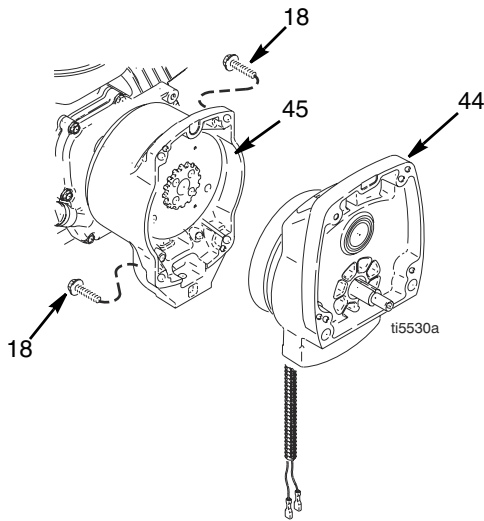
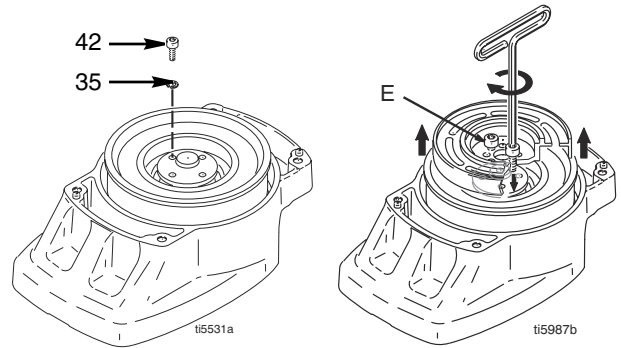

FIG. 4
FIG. 5
4. FIG. 4. Remove four screws (18) and pinion assembly (44).
5. FIG. 5. Place pinion assembly (44) on bench with rotor side up.
6. Remove four screws (42) and lock washers (35). Install two screws in threaded holes (E) in rotor. Alternately tighten screws until rotor comes off.
9. FIG. 5. Place pinion assembly on bench with rotor side up.
10. Apply locktite to screws. Install four screws (42) and lock washers (35). Alternately torque screws to 125 in-lb until rotor is secure. Use threaded holes to hold rotor.
11. FIG. 4. Install pinion assembly (44) with four screws (18).